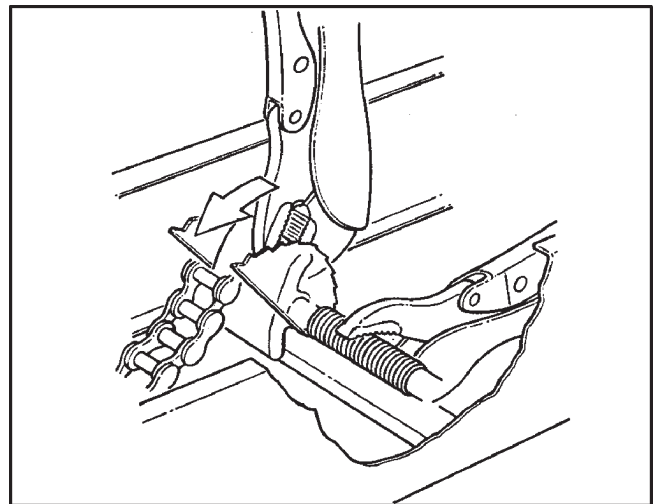

Figure 7-10. Prying the Slider Block off the Cam Assembly.
with a Vice-Grip 10CR or similar plier as illustrated in Figure 7-10 and remove the drive chain.
3. With pliers, pry the slider block off the cam assembly as illustrated in Figure 7-10.